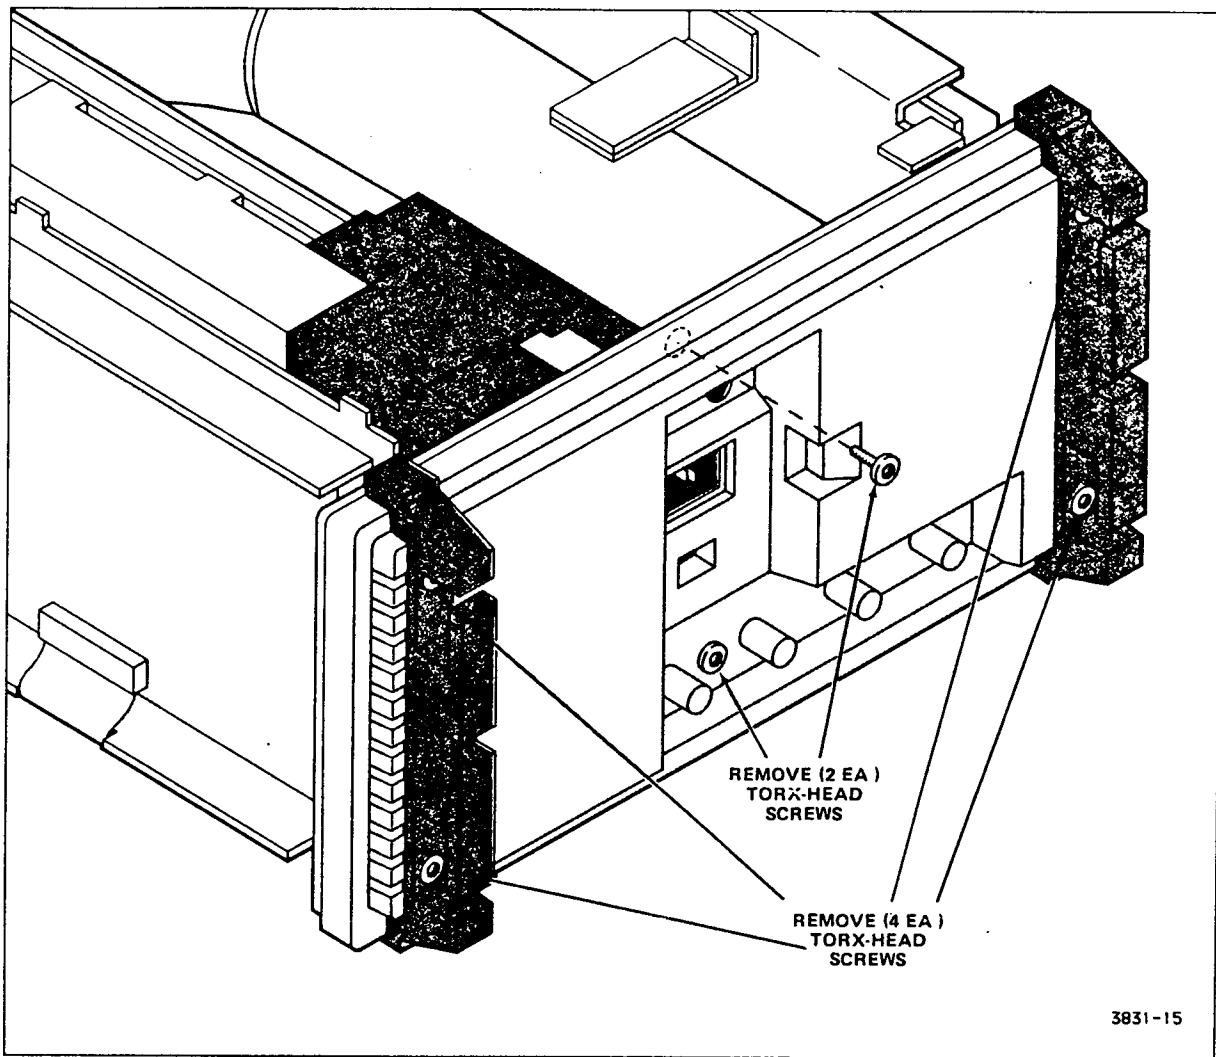

Fig. 1 Rear Panel Removal
- () d. Remove the four screws in the rear panel feet. (See to Fig. 1)